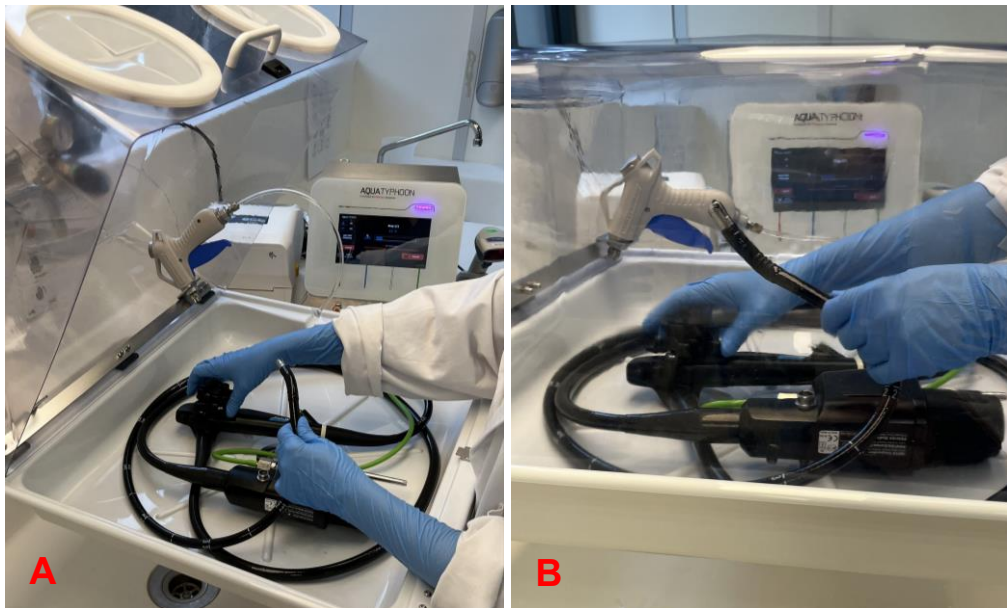

Figure 33. Performing leak test on the endoscope in the TyphoonBOX (A: open box, B: closed box)
5. User connects the leak test adapter (green tubing) to the endoscope and to AquaTYPHOON™ and runs the LEAK TEST. While the leak test is running, the user must slowly turn the left/right, up/down knobs in order to detect major leakages. This step can be performed in open or closed TyphoonBOX (see Figure 33).